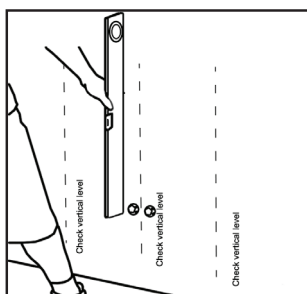

Fig.1
1. Check that wall is level (fig 1 and 2) and plumb both vertically and horizontally. If your wall is out of plumb, or is not flat, you will need to pack your vanity so as not to follow the wall. Your vanity must be level, otherwise it will twist and your doors and drawers will be out of alignment.